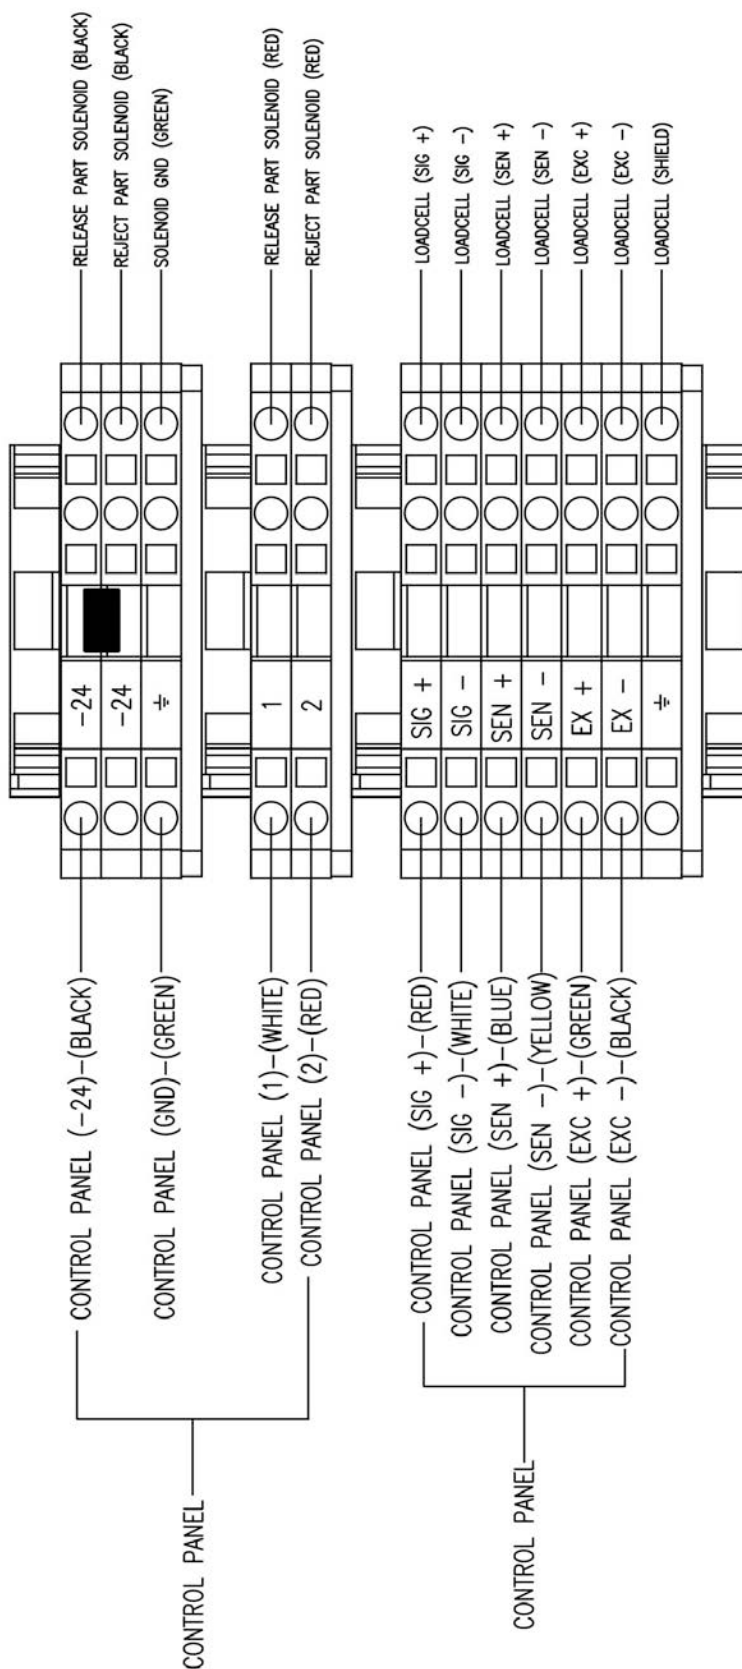

Figure 2-7. Load Cell Wiring
- Wire the load cell cable, control cable and terminals to the indicator using the diagrams in Figure 2-7 on page 7.